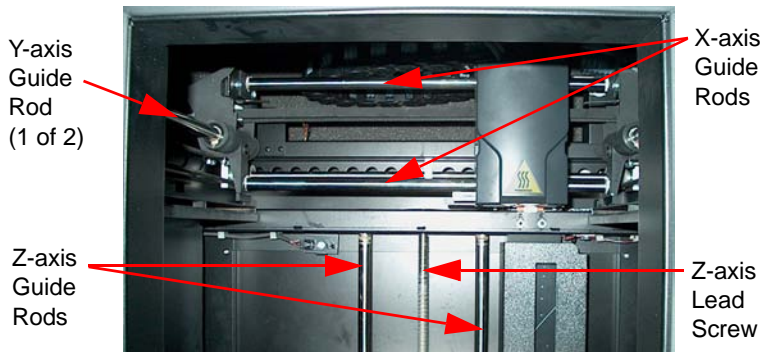

Figure 18: Lead Screw and Guide Rod Identification
1. Clean and lubricate the Z-axis lead screw (*drive screw*), X-axis guide rods (2), Y-axis guide rods (2), and Z-axis guide rods (2). See Figure 18 for locations.